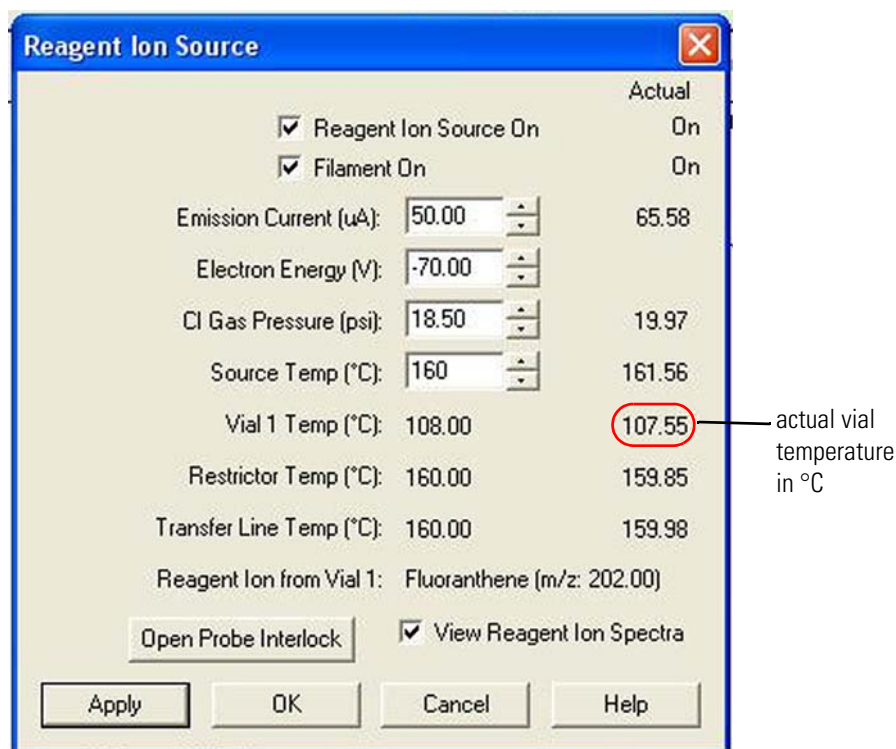

Figure 3-44. Reagent Ion Source dialog box
3. Click the reagent ion source portion of the instrument control icon at the top of the Tune Plus window. The Reagent Ion Source dialog box appears (Figure 3-44).
Observe the temperature of Vial 1 in the Actual column of the Reagent Ion Source dialog box (Figure 3-44). Nitrogen cooling gas will flow until the vial reaches 70 °C. (See “Turning Off the Reagent Ion Source: What to Expect” on page 2-14.) Allow up to 90 minutes for the vial temperature to reach ambient temperature (about 30 °C).
- b. Select the Reagent Ion Source On check box in the Reagent Ion Source dialog box when the ion source heater, flow restrictor, and transfer line heaters are at their operating temperatures. (See Figure 3-44 on page 3-50.)